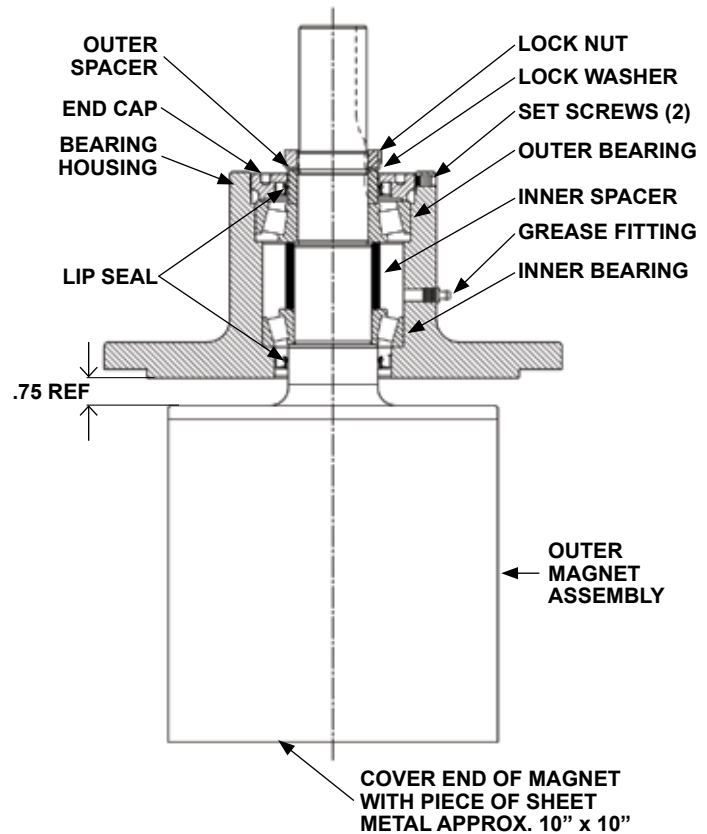

FIGURE 15
The bearing housing features two grease packed tapered roller bearings (TRB) along with a one-piece outer magnet assembly with shaft. The unit may be greased externally using the grease fitting. See **Figure 15** if further assembly is required and proceed as follows:
2. The outer end cap houses the second lip seal. If the seal is in good condition, slide the endcap over the outer spacer then thread into bearing housing. Center the inner spacer so the shaft will slide through the two bearings. Thread in the end cap until it makes contact with the outer TRB. Tighten the endcap by hand until tight and secure in position with the (2) setscrews.
3. Insert the outer magnet shaft through the bearings and the spacers. When the shaft is in the proper position there should be approximately 0.75" between the magnet and the housing. See **Figure 15**.